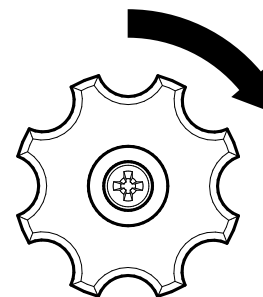

Figure 50. Propane Tank Shutoff Valve (Closed)
3. If LPG mode was in use, turn the **propane shutoff valve** clockwise (Figure 50) until closed.